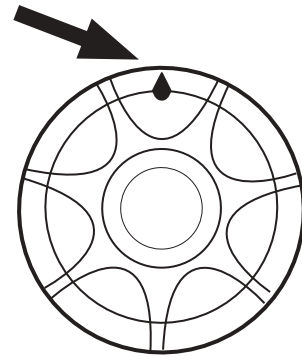

Figure 6. Wheel Speed Indicator
4. Locate the wheel speed indicator on the rear right wheel (Figure 6).